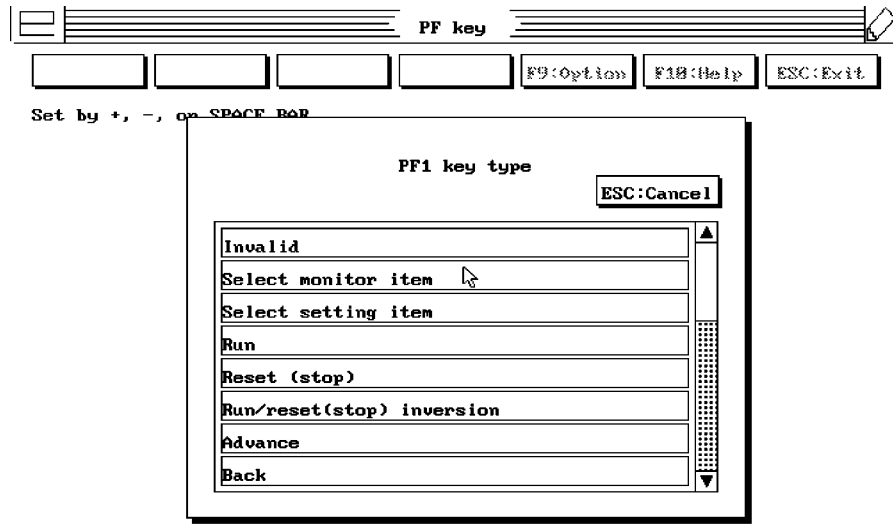

Figure 13
4. Select **Select monitor item** (Figure 13). The screen will disappear after selecting.